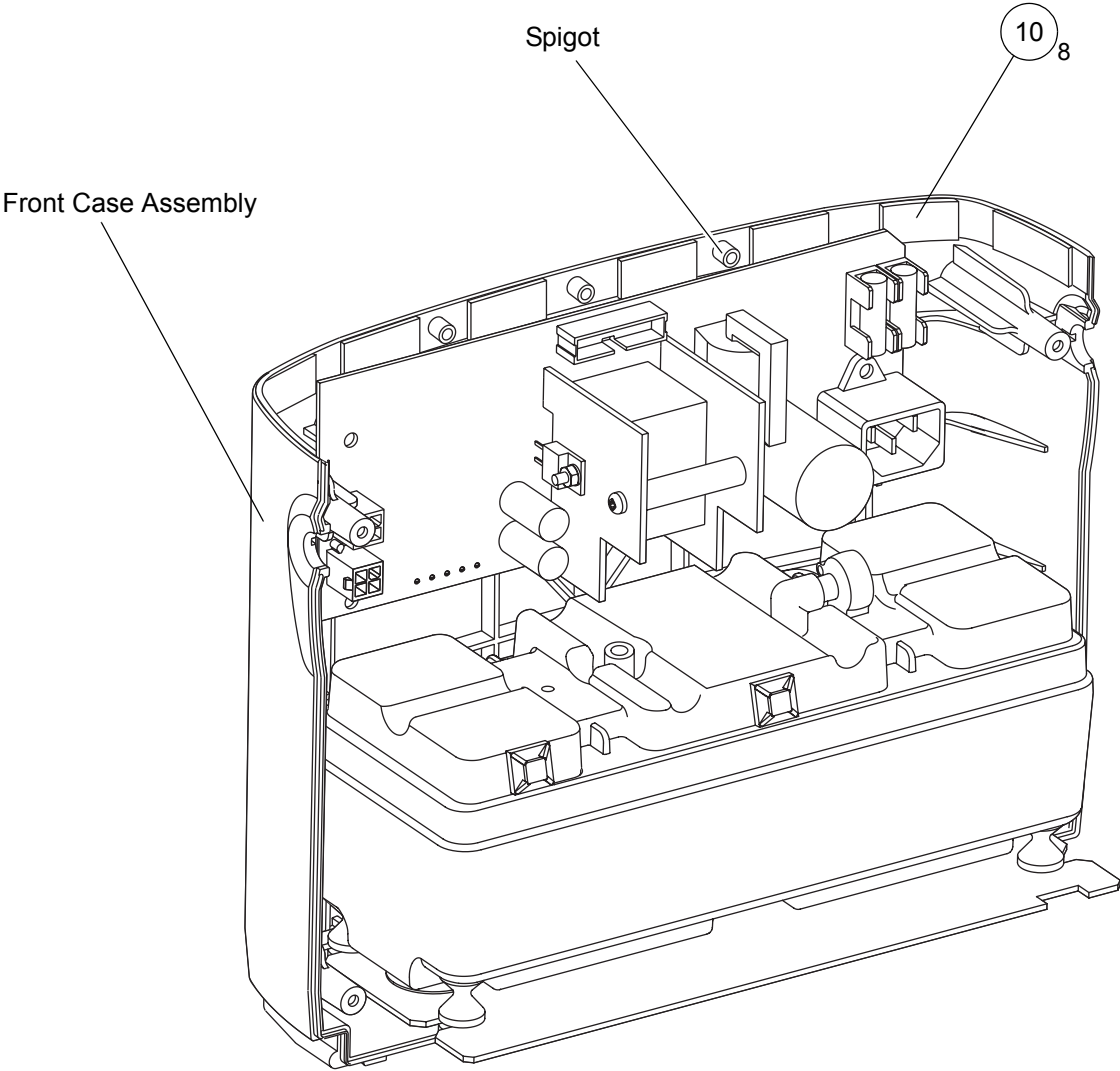

Figure 20 - Fitting the Double-Sided Sticky Pads
- 12.2 Take 8 new double-sided sticky pads (Fig 20, Item 10), remove the backing paper from **one** side of them and stick them to the top inside of the front case assembly.
Note: *The 8 sticky pads should be evenly spaced around the top inside edge, in the approximate positions shown in Figure 20.*